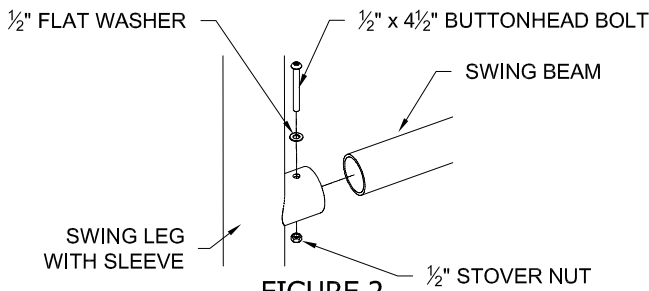

FIGURE 2
4. Slide the Swing Beam(s) into the sleeves of the Swing Legs, and secure in place using (1) ½" x 4½" Buttonhead Bolt, (1) ½" Flat Washer, and (1) ½" Stover Nut per connection. See Figure 2.